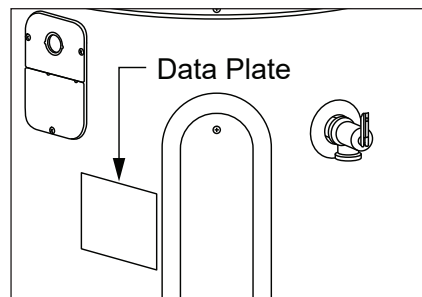

Figure 22 - The water heater’s electrical requirements can be determined from the data plate.
- 1 This water heater requires a 120 VAC single phase 15 amp power supply, at 60Hz. Check the water heater’s data plate (Figure 22) and ensure that the home’s voltage, wiring size (ampacity) and circuit breaker rating and type are correct for this water heater. Refer to the wiring diagram located on the water heater, and on page 38 of this manual, for the correct electrical connections. Ensure that wire sizes, type, and connections comply with all applicable local codes. In the absence of local codes, follow NFPA-70 and the current edition of the National Electric Code (NEC).